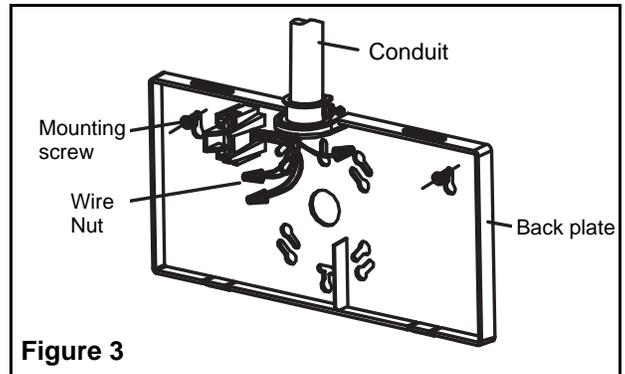

Figure 3
2. Remove keyhole knockouts on the back plate and mount to the wall (see figure 3).